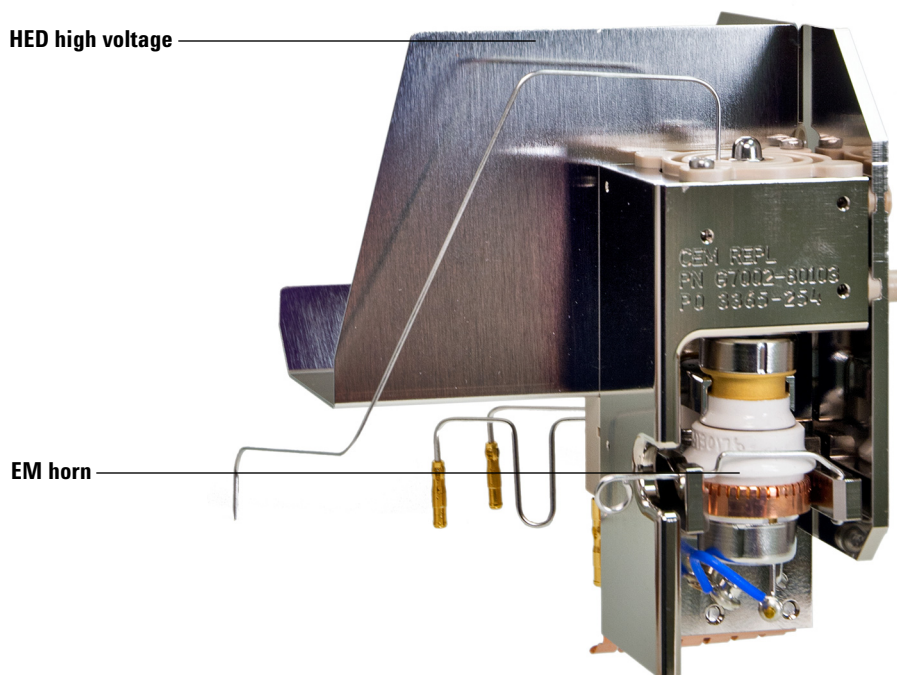

Figure 44 The detector
The detector (See Figure 44 on page 193) in the MSD analyzer is a high energy conversion dynode (HED) coupled to an electron multiplier (EM). The detector is located at the exit end of the quadrupole mass filter. It receives the ions that have passed through the mass filter. The detector generates an electronic signal proportional to the number of ions striking it. The detector has three main components: the detector ion focus, the HED, and the EM horn.